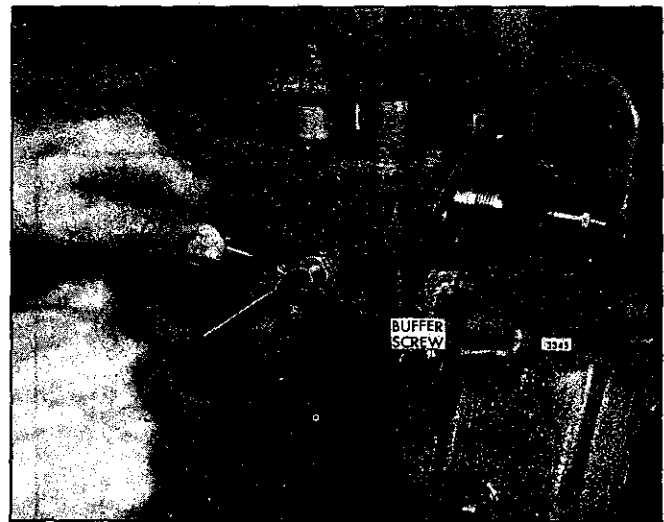

Fig. 9 - Adjusting the Buffer Screw
1. With the engine running at normal operating temperature, loosen the locknut and turn the buffer screw in so that it contacts the differential lever as lightly as possible and still eliminates engine roll (Fig. 9). *Do not increase the engine idle speed more than 15 rpm with the buffer screw.*
3. Start the engine and loosen the idle speed adjusting screw locknut. Then adjust the idle screw to obtain the desired idle speed (Fig. 9). Hold the screw and tighten the locknut to hold the adjustment. Governors used in turbocharged engine include a starting aid screw and locknut threaded into the governor gap adjusting screw.